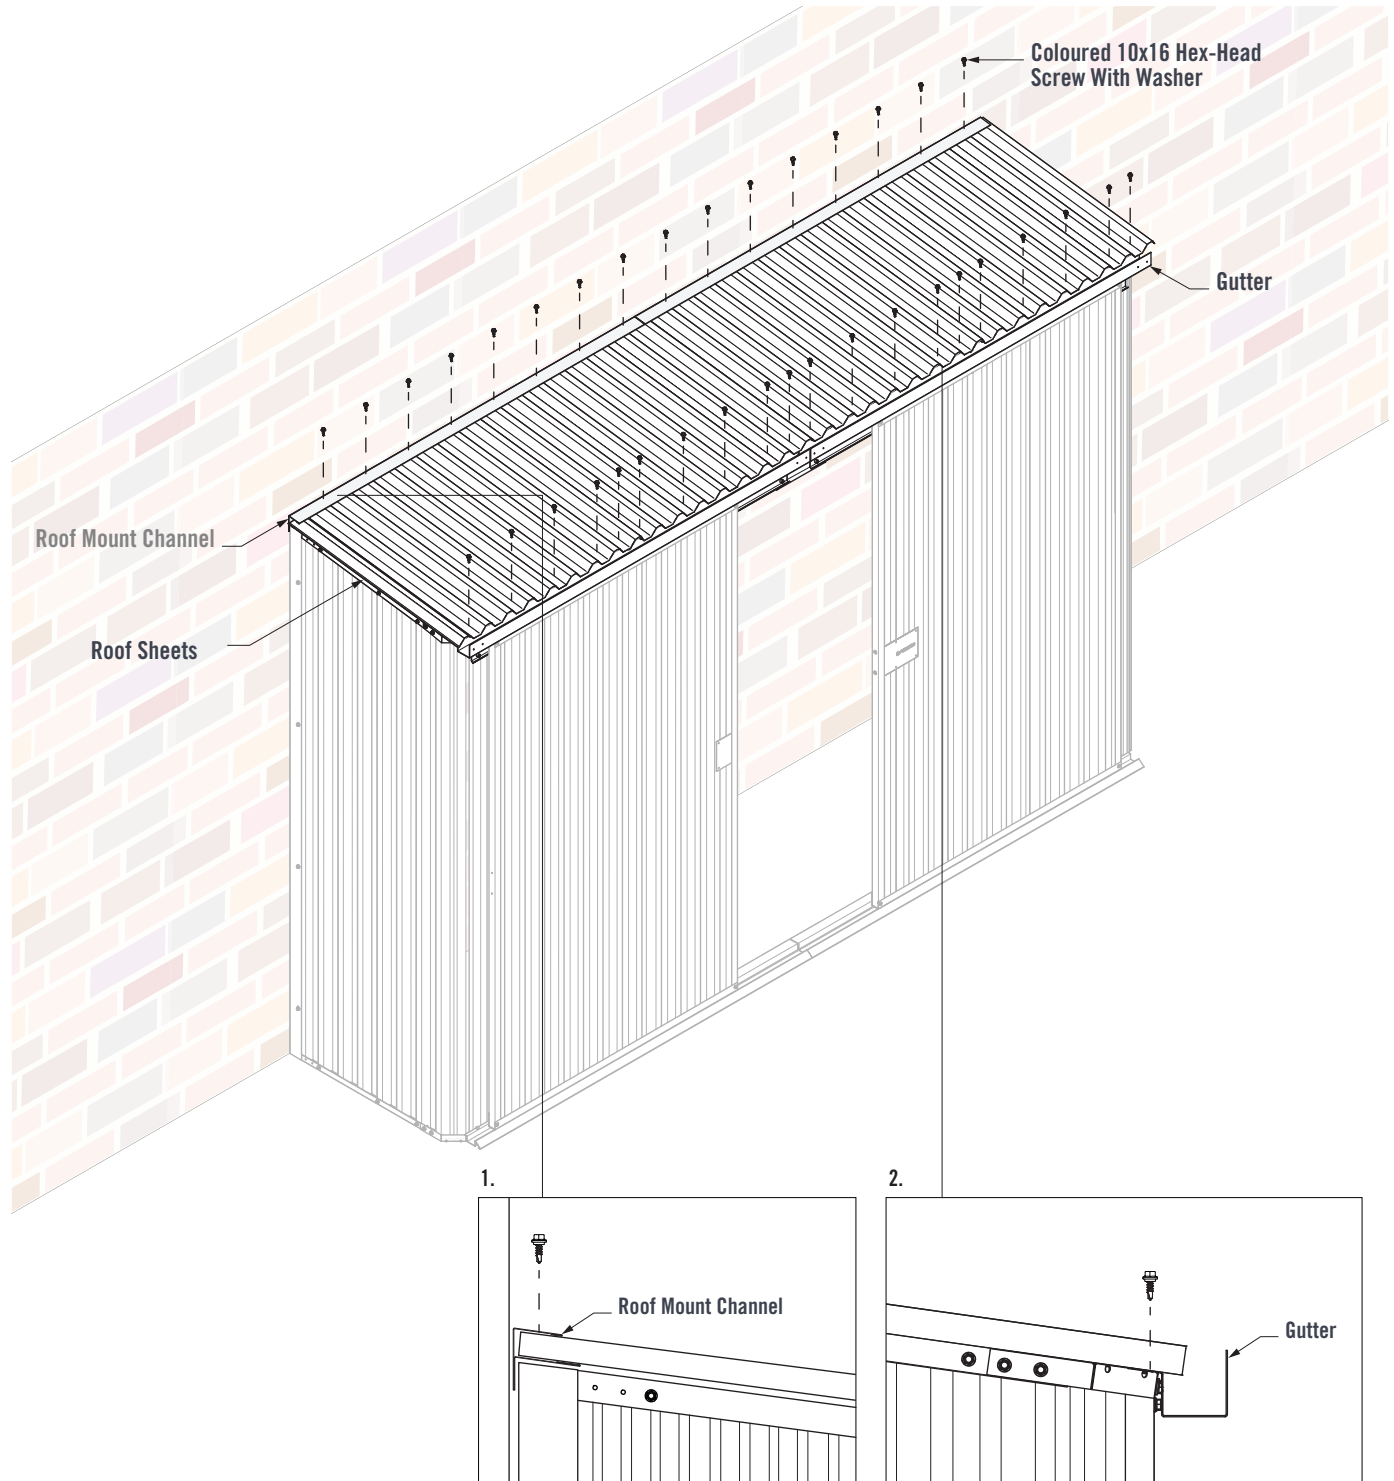

FIGURE 10.2
1. Fit the Roof Sheets into the Roof Mount Channels. Fasten sixteen Coloured 10x16 Hex-Head Screws with Neo Washers through the Roof Mount Channel and into the Roof Sheets (Figure 10.2).
2. Fasten twenty Coloured 10x16 Hex-Head Screws with Neo Washers through the Roof Sheet pans and into the Gutter. Ensure a Screw is fastened in both pans either side of the sheet laps (Figure 10.2).